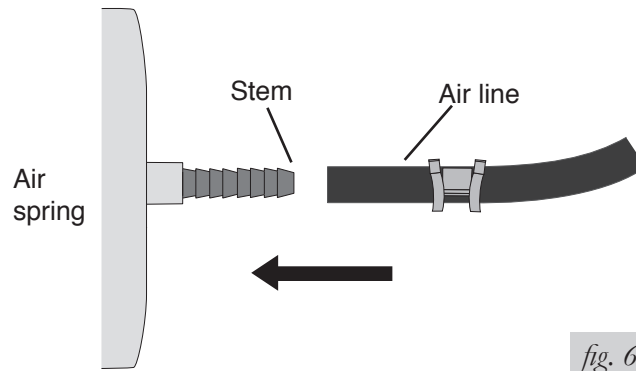

fig. 6
6. Push the air line onto the stem, covering all the barbs (Fig. 6). With the pliers, slide the air line clamp upward until it fully covers the barbed section.
5. Push the air line onto the stem, covering all the barbed section (see Fig. 6). With pliers slide the air line clamp forward until it fully covers the barbed section.